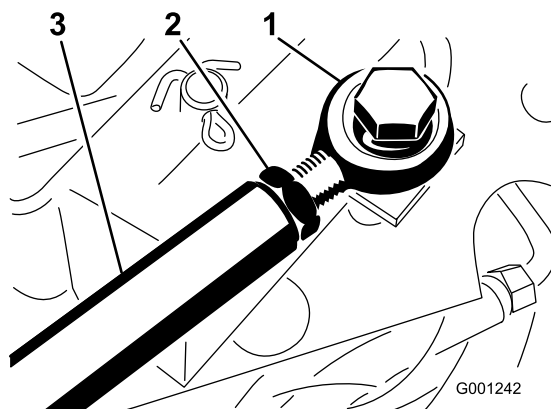

Figure 82
If more adjustment is required, adjust the traction rod (Figure 82) as follows:
2. Loosen the jam nut securing rod end to the traction rod (Figure 82).
4. Tighten the jam nut (Figure 82) and secure the rod end to the traction pedal with the bolt and nut removed to lock the angle of the foot pedal.